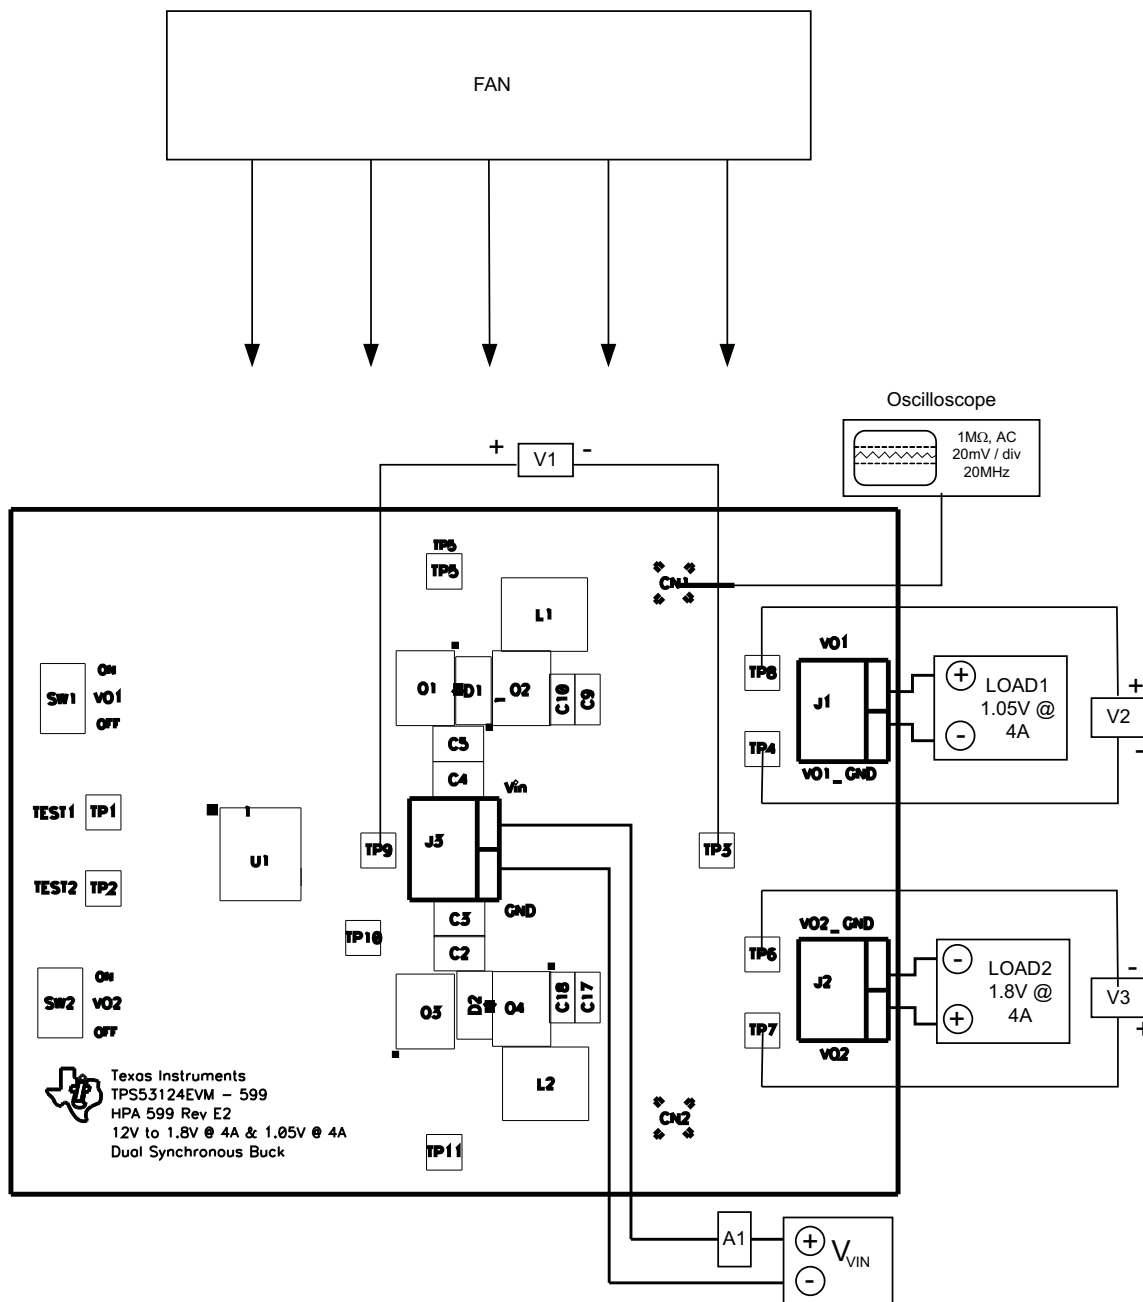

Figure 2. TPS53125EVM-599 Recommended Test Setup
Figure 2 shows the basic test setup that is recommended to evaluate the TPS53125EVM-599. Note that although the return for J3 and J1 and JP2 are the same system ground, the connections must remain separate as shown in Figure 2.
2. Prior to connecting the dc input source, V_{IN} , it is advisable to limit the source current from V_{IN} to 3 Adc maximum. Ensure that V_{IN} is initially set to 0 V and connected as shown in Figure 2.
- Connect oscilloscope probe to CN1 or CN2 shown in Figure 2.